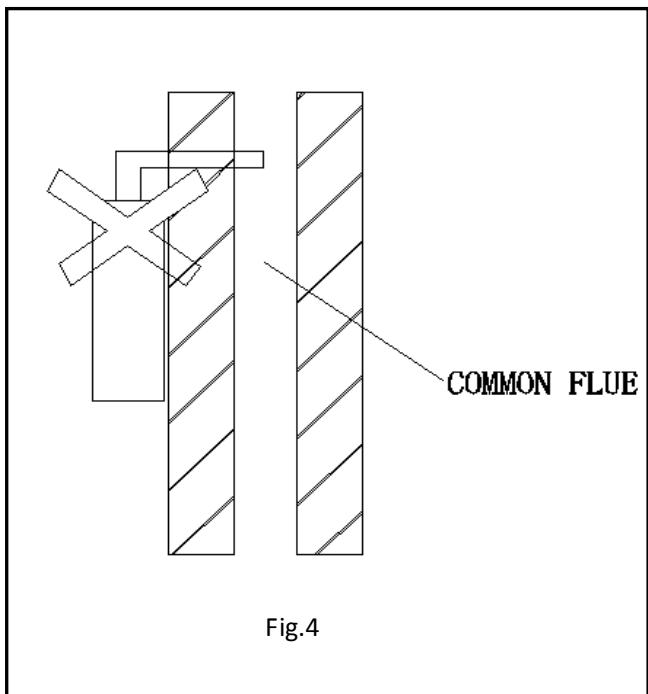

Fig.4
- The flue of the heater cannot be connected to a common flue (Fig. 4).